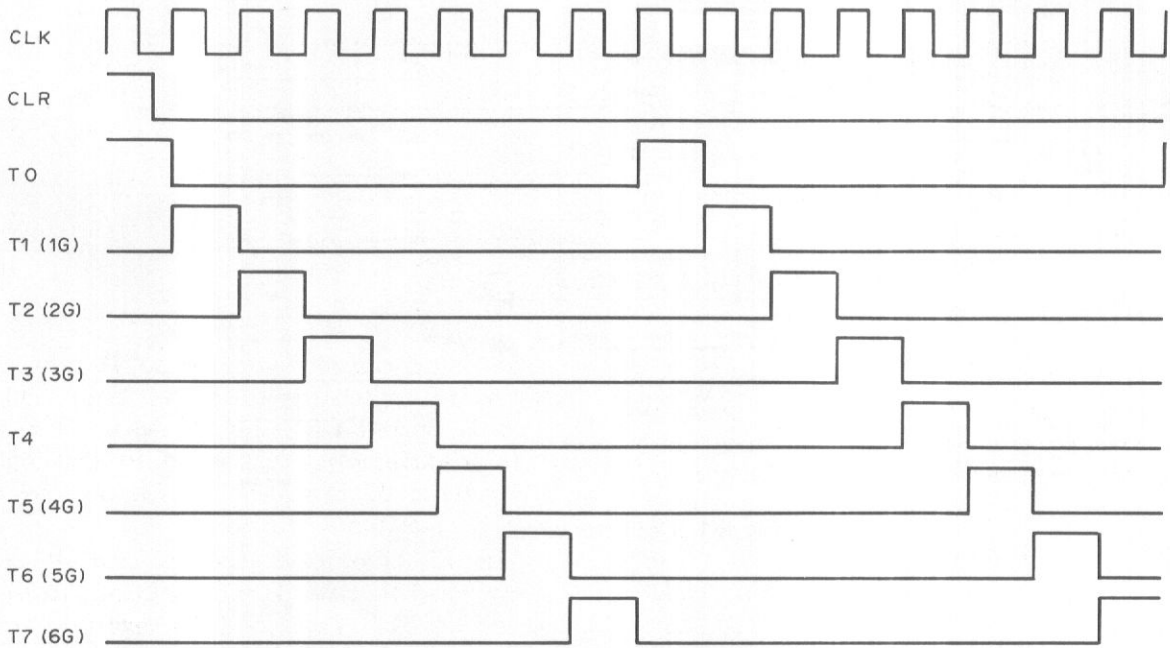

Fig. 6-3 F.L. meter drive circuit
2. These divided clock pulses are then transferred as output signals from the T0 ~ T7 output terminals (see Fig. 6-3), and used in the generation of time shared reference voltages at points (A), (B), (C) and (D). These reference voltages are then compared with the IC909 output signals (level meter drive analog signals) at IC804 (IC805 for the right channel) where the analog/digital conversion is performed. The FL